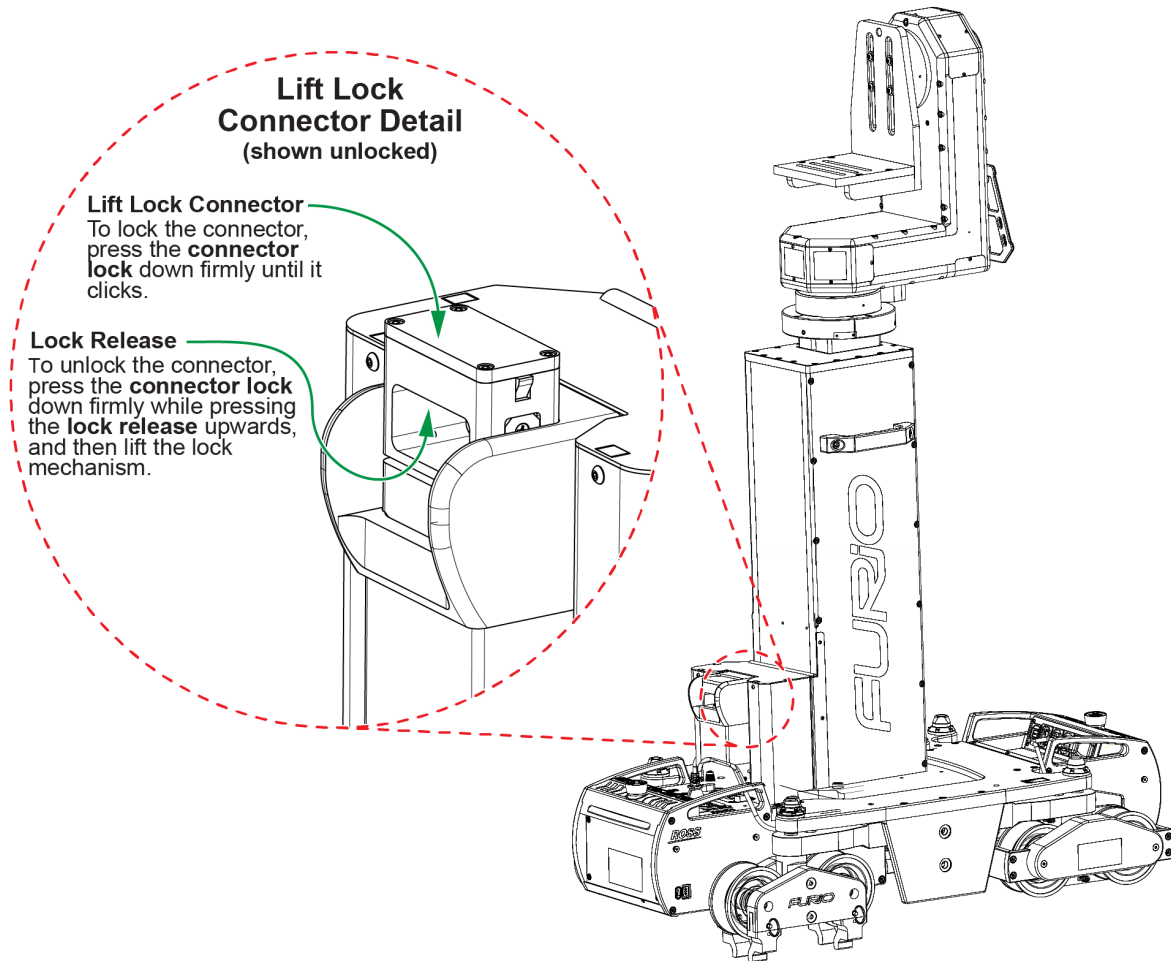

Figure 31 - Furio SE Dolly with S2 Lift, showing Lift Lock Connector Detail
3. If the dolly has a robotic lift, disengage the lift lock connector (**Figure 31**).
8. If the dolly has a robotic lift, engage the lift lock connector (see **Figure 31** on **page 40**).